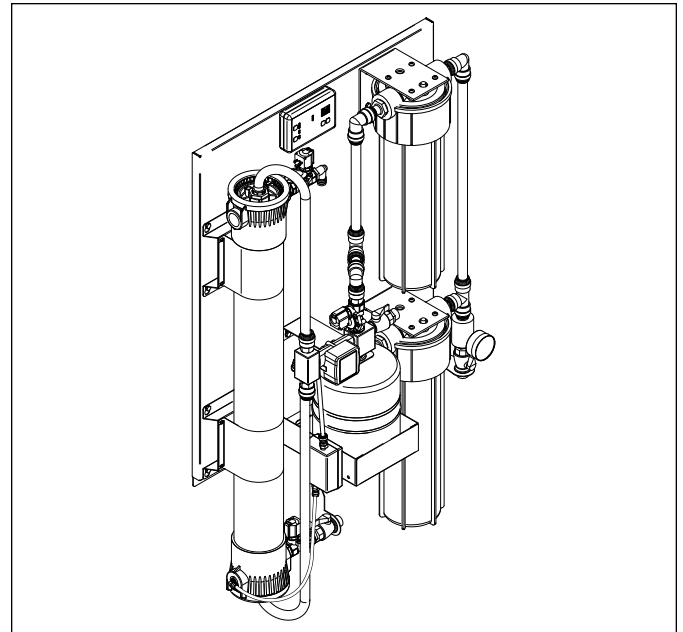

Figure 2. TAP-442 System
1. Using the provided Velcro® fastener, connect the Smart Controller to the system (Figure 2).